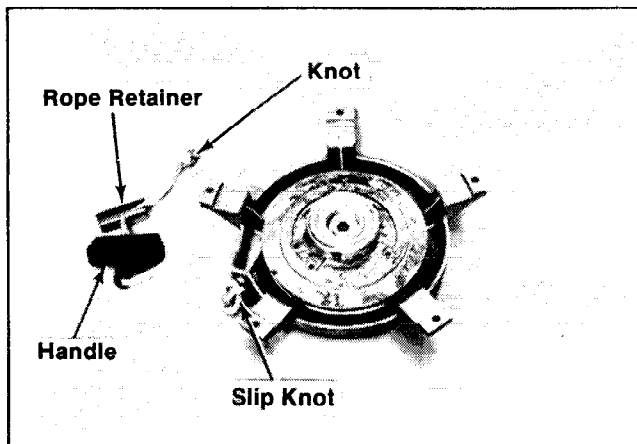

Figure 7-12. Removing Handle.
2. Pull the rope out approximately 12" and tie a temporary (slip) knot in it to keep it from retracting into starter. Refer to Figure 7-12.
18. Slip the handle and rope retainer onto rope. Tie a single knot at the end of rope and install rope retainer into handle. Refer to Figure 7-12.